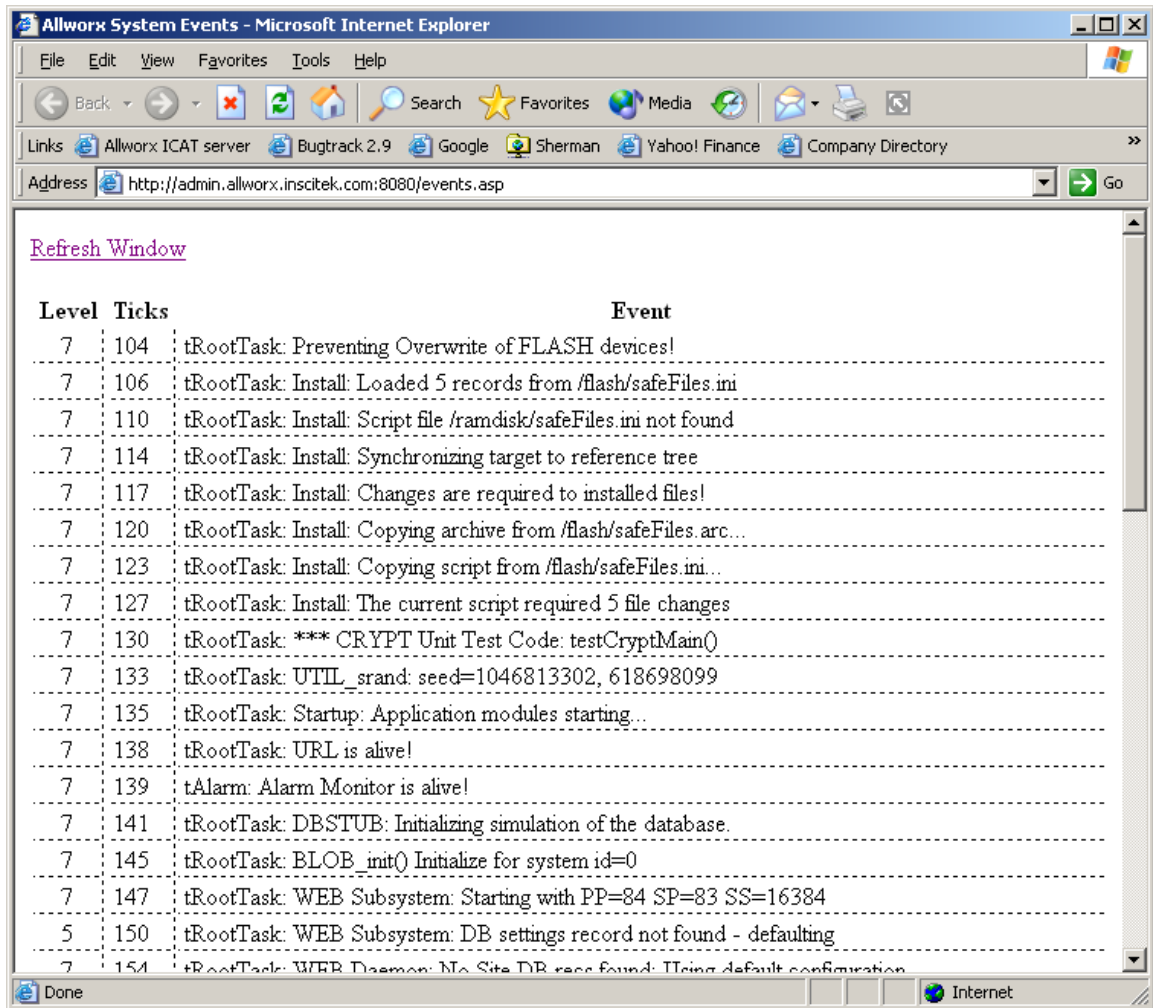

Figure 6-2 – System Events Log
- 5 Click Open System Events Window. The report in Figure 6-2 will appear.